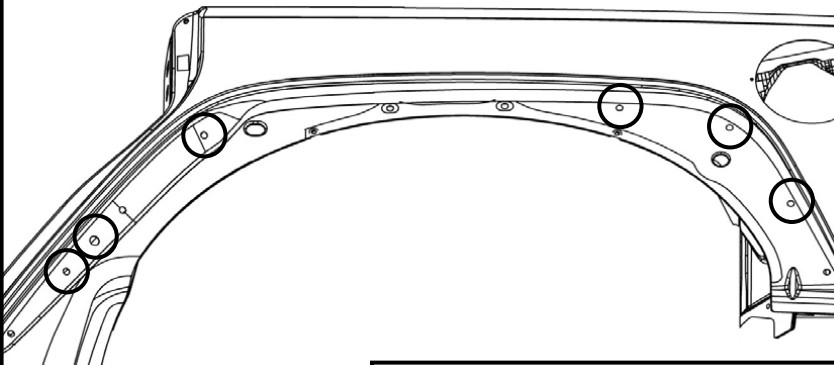

Figure 4
4. Drill the pre-existing holes along the vehicle fender area to prepare them for riv-certs. Use a 25/64" drill bit. See **Figure 4**. **Note:** Holes accessible from the rear do not need to be drilled.
Repeat (3) Steps for every drilled hole from Figure 4.